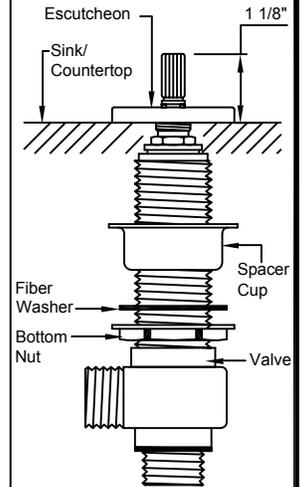

Fig. 3B
- Insert valve through hole from below and install the escutcheon and adjust to proper height, (**See Fig. 3B**). Then place handle onto valve broach to verify correct clearance between handle and escutcheon, (repeat for other valve).
The trims to these products do not require a top nut & a fiber washer to be installed on the valve, the escutcheon takes the place of the top nut, (**See Fig. 3B**)